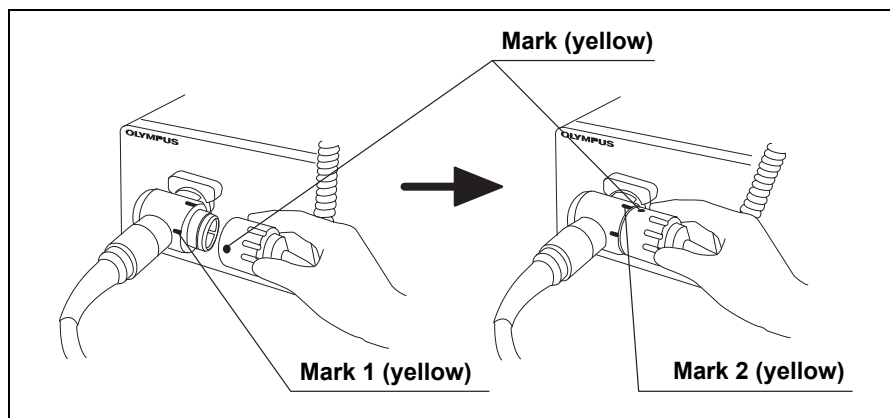

Figure 3.9
3. Align the mark on the videoscope cable with mark 1 on the electrical connector and push it in until it stops (see Figure 3.9).
4. Turn the videoscope cable clockwise until it stops (see Figure 3.9).